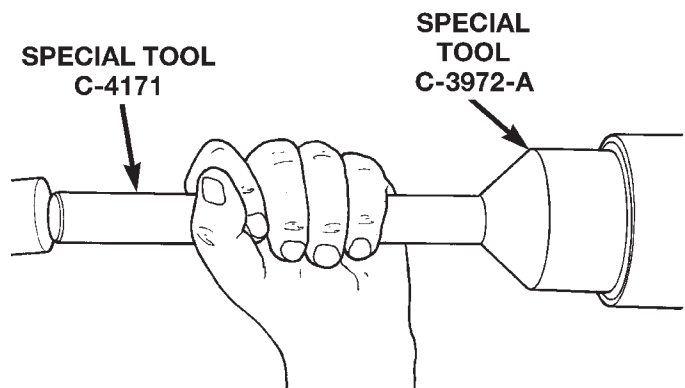

Fig. 21 Pinion Seal Installation
(3) Install pinion front bearing, if necessary.
(4) Apply a light coating of gear lubricant on the lip of pinion seal. Install seal with Installer C-3972-A and Handle C-4171 (Fig. 21).